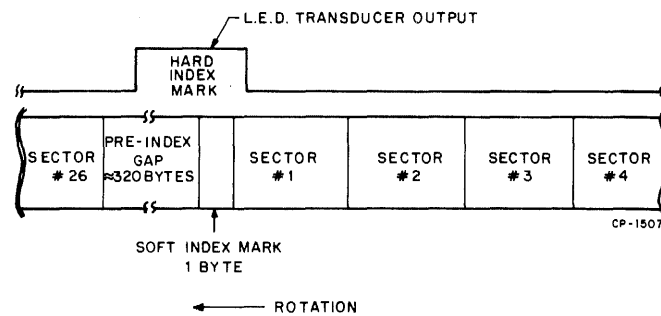
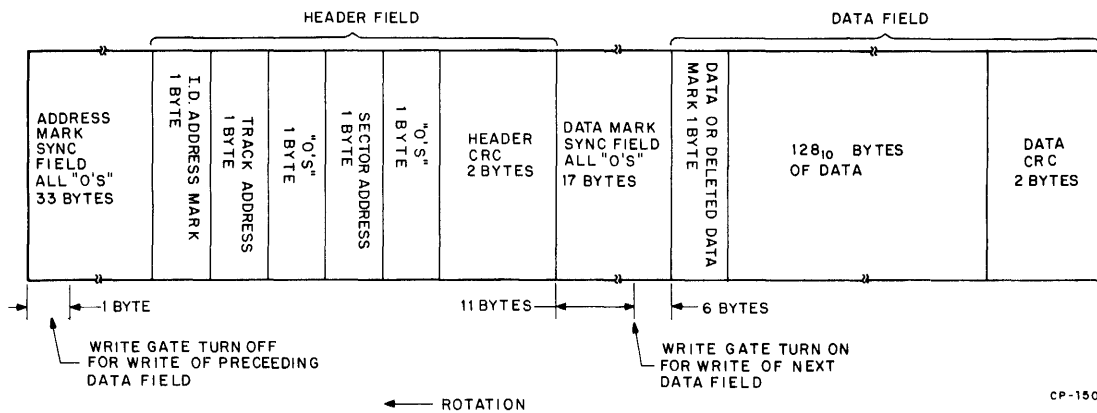

Figure 1-10 Track Format (Each Track)
Figure 1-11 Sector Format (Each Sector)
Data is recorded on only one side of the diskette. This surface is divided into 77 concentric circles or “tracks” numbered 0–76. Each track is divided into 26 sectors numbered 1–26 (Figure 1-10). Each sector contains two major fields: the header field and the data field (Figure 1-11).
1.3.3.2 Data Field Description – The data field is broken into 131 bytes of information and is preceded by a field of zeros for synchronization and the header field (Figure 1-11).